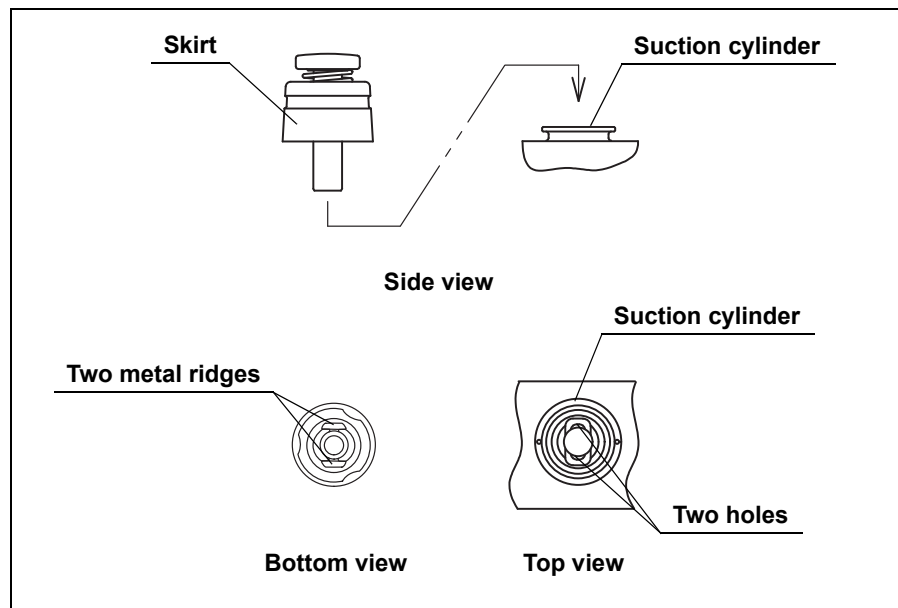

Figure 3.11
2. Attach the suction valve to the suction cylinder of the endoscope (see Figure 3.11 and 3.12). Confirm that the valve fits properly without any bulging of the skirt. Also, confirm that the valve cannot be rotated.